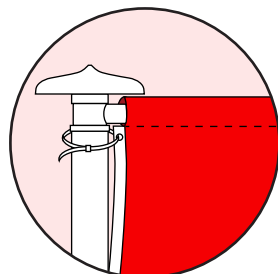
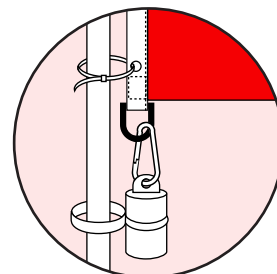

Fig 7a.
Fig 7b.
8. Secure plastic ties through the eyelets and around the pole. DO NOT OVER-TIGHTEN (see fig 7a). At the bottom of the flag attach the D-ring to the metal clip on the weight. (see fig 7b)